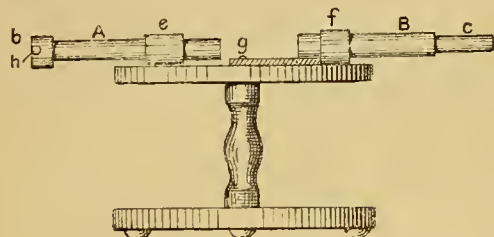
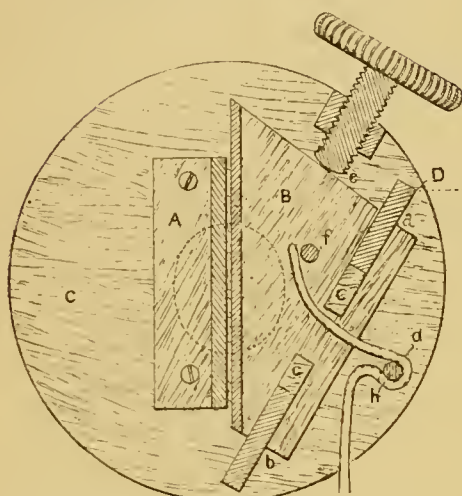
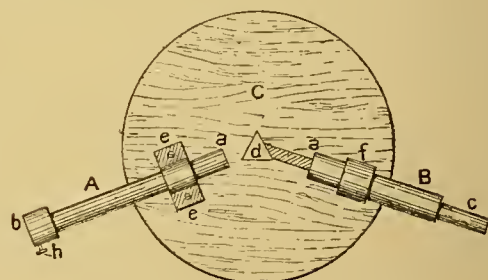

FIG. 8.—SPECTROSCOPE AND STAND.
FIG. 6.—ADJUSTABLE SLIT FOR TUBE SPECTROSCOPE, ONE JAW FIXED, THE OTHER CLOSING WITH A DIAGONAL MOTION.
FIG. 7.—PLAN VIEW OF SPECTROSCOPE.
This instrument will enable the amateur to do interesting work, but of course not equal to the work that can be done by the large one I have already described in a previous Volume, and to which I refer my readers. In addition to slits I have described in this and in previous articles, I will mention one or two others. The first is one I have designed of a much less complex kind than those of the parallel ruler type, which I have no doubt other amateurs, as well as myself, have found not very easy to make. It is, however, when made with care, an excellent arrangement. This has one jaw fixed, and the other closes by a diagonal motion. Make one jaw, as A, in Fig. 6, and secure it by two small bolts. The movable jaw is shaped as B. From *a* to *b* draw a line with a
sharp point, and saw two slots, as shown. Lay it on the cap, c, with its edge close and light-tight with the other. Mark the cap through the slits, and drill holes in it. Cut two strips of brass, as d (Fig 6). These must be of such a thickness as will permit them to enter the slots
construction of a very inexpensive instrument of the table class (Figs. 7 and 8).
**Lenses.**—Procure a pair of spectacle lens of, say, 10-inch focus. The focal length may be found by holding it opposite the sun, and measuring the distance it has to be removed from a wall to cause a small point of light or image of the sun to appear. Any other common lens would do as well, but these are more easily procured by the majority of persons. Make two tubes (A, B) of sheet-tin, or even brown paper and glue, just 1 inch shorter than the focal length of the lens. Tube A (Fig. 7), is the collimator; that is, it is to cause the rays of light to travel parallel. At one end, a, the
FIG. 6.—VIEW OF AN ADJUSTABLE SLIT FOR A TABLE SPECTROSCOPE; A, FIXED JAW; B, ADJUSTABLE JAW; C, THE CAP TO FIT THE TUBE, FIG. 7; D, GUIDE STUD FOR THE SLOT CC; e, PIN TO TAKE SPRING h; f, SCREW TO ACT AGAINST THE SPRING; g, PIN IN THE JAW AGAINST WHICH THE SPRING ACTS; g, DOTTED LINES SHOWING THE OPENING ON THE CAP.
FIGS. 7 AND 8.—THE SAME LETTERS REFER TO THE SAME PARTS; A, COLLIMATOR TUBE; B, TELESCOPE; C, TABLE; a, LENS; b, CAP WITH ADJUSTABLE SLIT; c, FOCUSING EYE-PIECE; d, PRISM; e, COLLAR TO HOLD (A) TUBE; f, COLLAR TO RECEIVE RADIAL ARM g, FIG. 8; h, MILLED HEAD SCREW TO ACT IN JAW AS e, FIG. 6.
*Stand.*—Make a disc of wood, *c* (Figs. 7 and 8), 10 or 12 inches in diameter, to be mounted on a pillar and foot, or otherwise. Of tin-plate or sheet-brass make a collar with two lugs, as *e*, to screw to the disc, or, as we will call it, the table; this will grip and hold the tube with the slit. For the telescope a collar must be made with an arm, as *f*. In the end of this arm is a hole, *g* (Fig. 8), to receive a screw. By this means the telescope can move in a radial manner so as to look at the whole of the spectrum. In the centre of the table a small platform must be raised to receive the prism *d* (Fig. 7.)